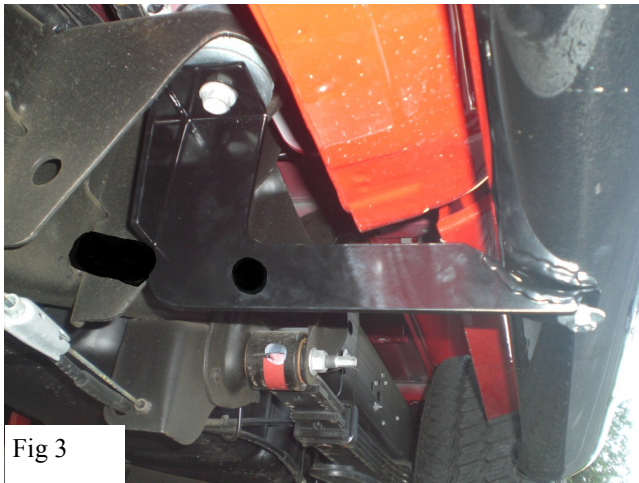

Fig 3
4. Move to the rear body mount bolt and remove the body mount bolt. Install the rear mounting bracket as stated in step 1. do not fully tighten at this time (fig 3).